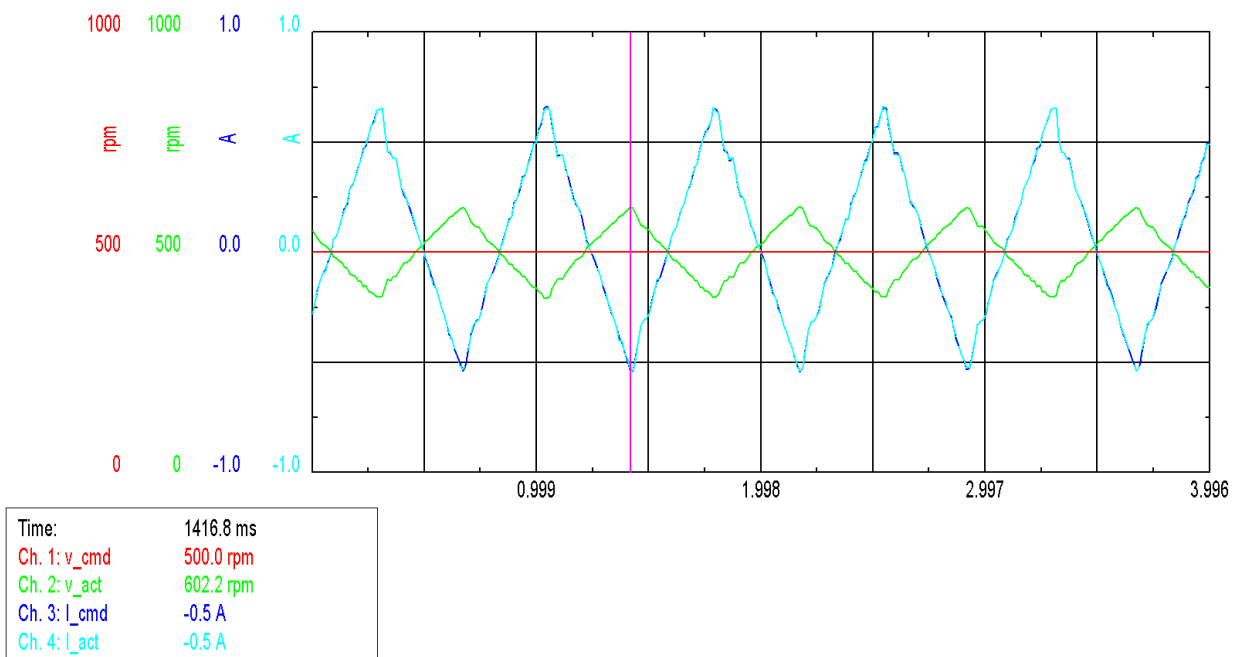

Figure 0.11: Sensorless response with a profile load torque and 12.5% nominal speed
- Maximal load torque from the machine $T = 0.5\text{Nm}$ (see Fig. 0.11)
Naturally the response from Fig. 0.11 is not as good as the response using sensor. Here some conclusions:
- Besides, the velocity in Fig. 0.11 cannot be considered as controlled